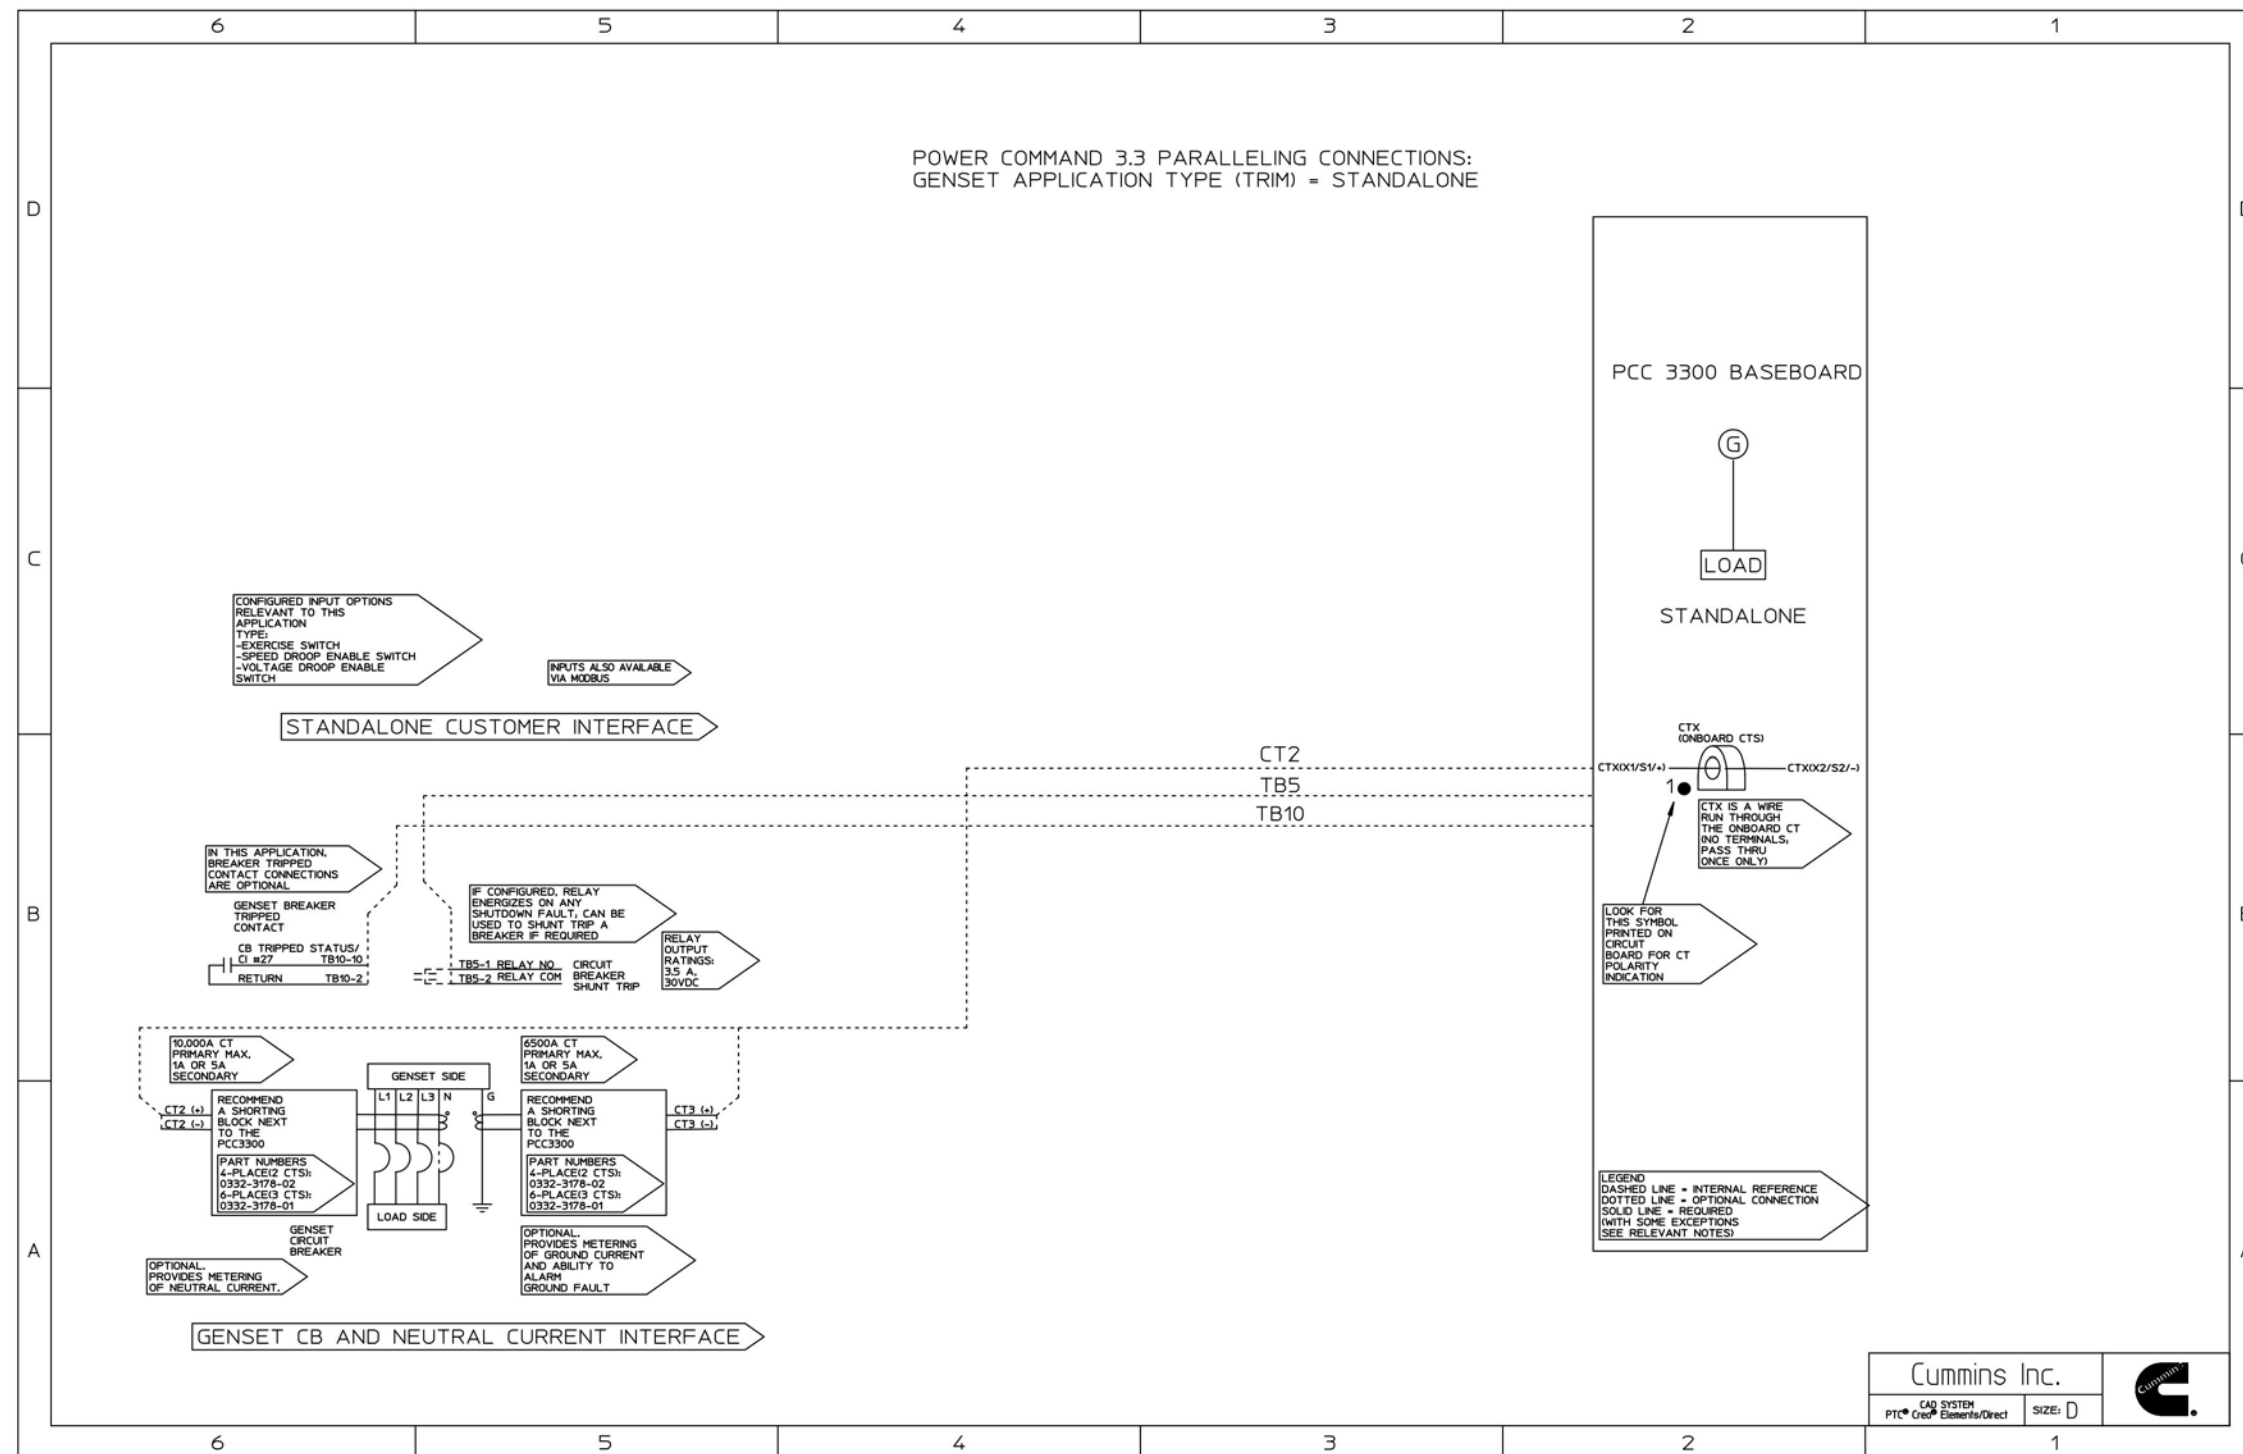

FIGURE 54. POWERCOMMAND 3.3 PARALLELING CONNECTIONS - STANDALONE GENERATOR SET
- Figure 54. PowerCommand 3.3 Paralleling Connections - Standalone Generator Set 117